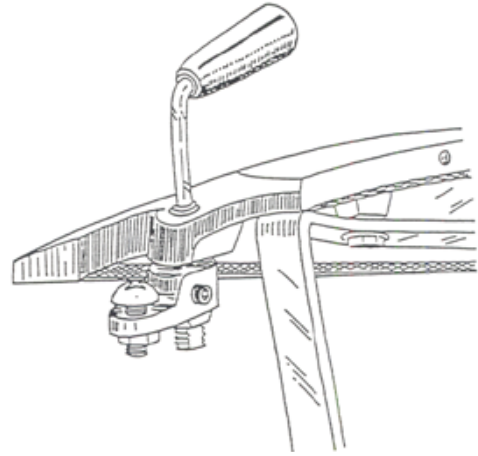

Fig. 13 Ashdoor handle assembly
26. Assemble and install the ashdoor. Screw the socket, button head bolt into the stepped side of the latch pawl (**Fig. 13**). Thread the hex nut onto the end of the bolt and tighten it finger tight against the flat side of the pawl. Slide the ashdoor handle shaft through its hole in the ashdoor. Slide the pawl onto the shaft so that the pawl offset is opposite the handle curve. Ensure that the pawl is against the door and that the handle turns without binding. Tighten the set screw in the pawl. Thread the jam nut onto the handle shaft and tighten it against the pawl. Position the ashdoor between the bottom hinge panel and the bottom of the stove; slide the ashdoor hinge pin upward through the bottom hinge, through the ashdoor, and into the socket of the Allen bolt holding the left leg to the stove bottom. Secure the hinge pin with a clevis pin just above the bottom hinge.